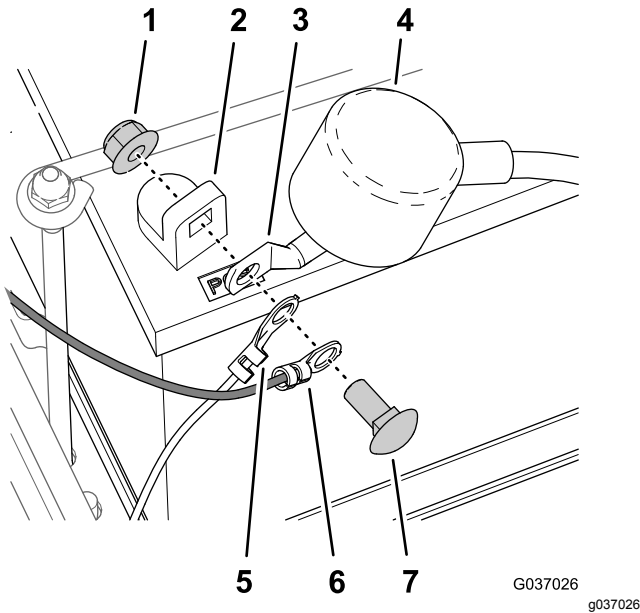

Figure 13
1. Align the ring terminal for the machine wire harness, the ring terminal of the kit wire harness, and the terminal for the positive battery cable to the positive battery post (Figure 13).
2. Secure the ring terminals and battery terminal to the battery post (Figure 13) with the bolt and nut removed in 2 Disconnecting the Battery (page 2).
3. Align the insulator cover over the positive battery terminal (Figure 13).